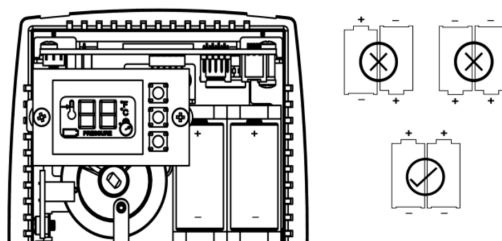

Figure 7. WPT Batteries
7. Fit the batteries and close the top cover. The battery polarities are as shown in Figure 7.
Replace battery with CR123 type or equivalent from Panasonic, Sanyo, Energizer or Duracell only. Use of any other battery may present a risk of fire or explosion. See Figure 7 for correct polarity.